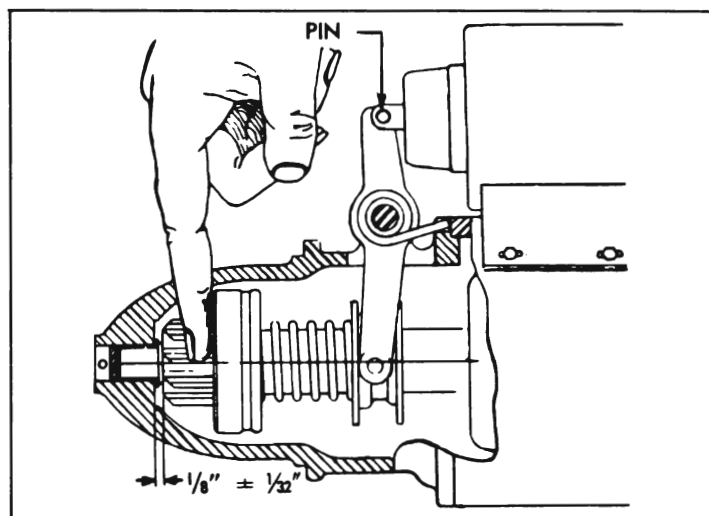

Figure 10-44—Checking Pinion Clearance
3. Press finger lightly against outer side of drive assembly shell to take out all lash in shift linkage, but without compressing the clutch spring. Measure clearance between end of pinion and machined surface on drive housing. Clearance should be $\frac{1}{8}'' \pm \frac{1}{32}''$. See figure 10-44.